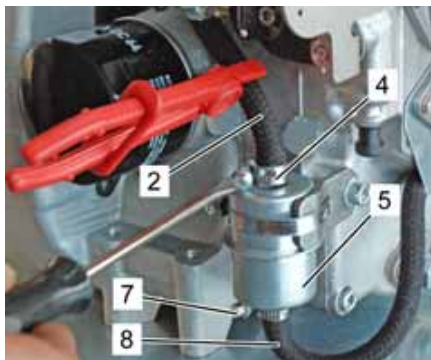

Fig. 71
5. Collect the fuel from the fuel line (2) and from the fuel filter (5) in a suitable container (6) and dispose of in accordance with the environmental regulations.
6. Undo hose clamp (Fig. 71/7) and pull off the fuel line (Fig. 71/8) from the fuel filter (Fig. 71/5).